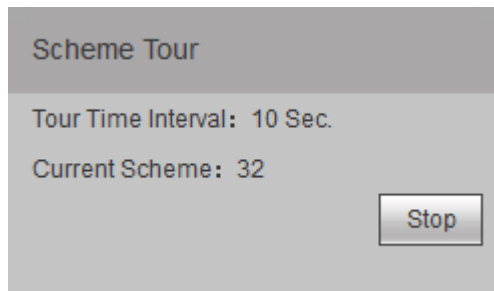

Figure 3-11
Step 6 Click “Start”. The system starts to tour, and tour info is displayed at the lower right corner of the interface, as shown in Figure 3-11.